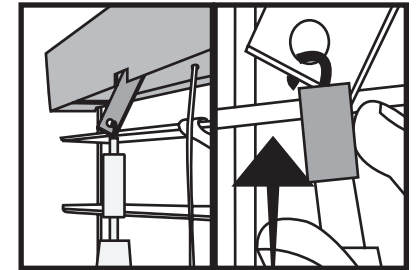

Figure 3; Hook Wand onto Tilt Stem
(A) [Fig. 3] by connecting or inserting the SMART WAND'S™ slat ATTACHMENT HOOK (a) to your blind's tilt gear stem. Carefully push up the plastic RETAINING SLEEVE (c), [Fig. 3.1] to secure the connection. Now rotate the SMART WAND™ (A) until the two SENSOR SWITCHES (d) & (e) are in front or facing into the room.